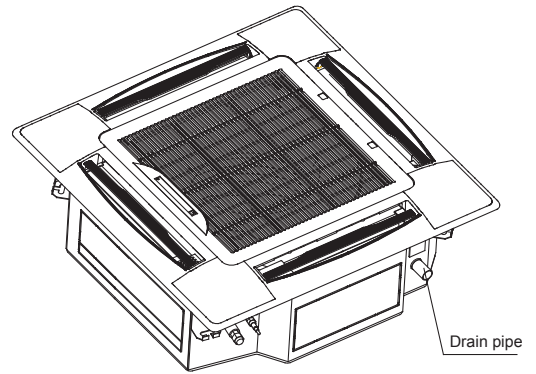

Fig. 4-9
- Adjust the position to ensure the gaps between the body and the four sides of ceiling are even. The body's lower part should sink into the ceiling to a depth of 10-12 mm (refer to Fig. 4-9).